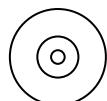

Figure 6: double gear
5.2 Feel the white toothed double gear (Fig. 6) between your thumb and forefinger. One side is smooth and the other side will feel rough as it has an 8-toothed gear.
A 1.2 Feel the white toothed double gears (Fig. 6) between your thumb and forefinger. One side is smooth and the other side will feel rough as it has an 8-toothed gear.